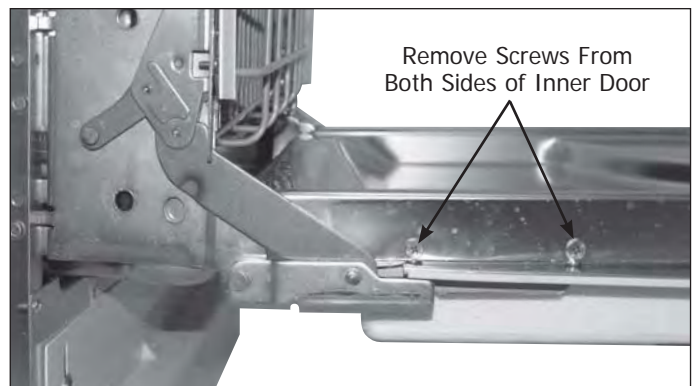

Figure 4-9.
7. Extract the four screws securing inner door panel to hinge assembly. Remove inner door panel from unit. (See Figure 4-9)